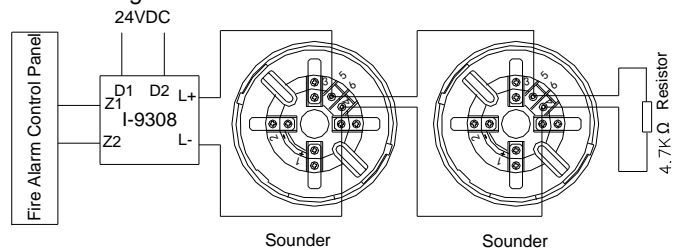
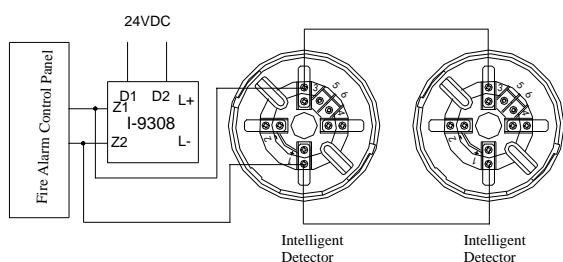
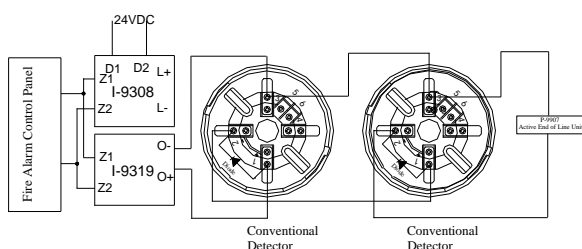

Fig. 3
Fig. 4
Fig. 5
✧ The sounder can be directly connected to I-9308 module, which occupies two consecutive address points. When there is fire alarm message, it activates low address to give pre-alarm sound, activates high address to give fire alarm sound. System wiring is shown in Fig. 3.
- When mounting intelligent detector on the sounder, first wire according to Fig. 3, then refer to Fig.4.
- When mounting conventional detectors on the sounder, I-9319 Intelligent Zone Monitor Unit should be added to the system and a P-9907 Active End of Line Unit connected to the end of the loop. First wire according to Fig. 3, then refer to Fig. 5.